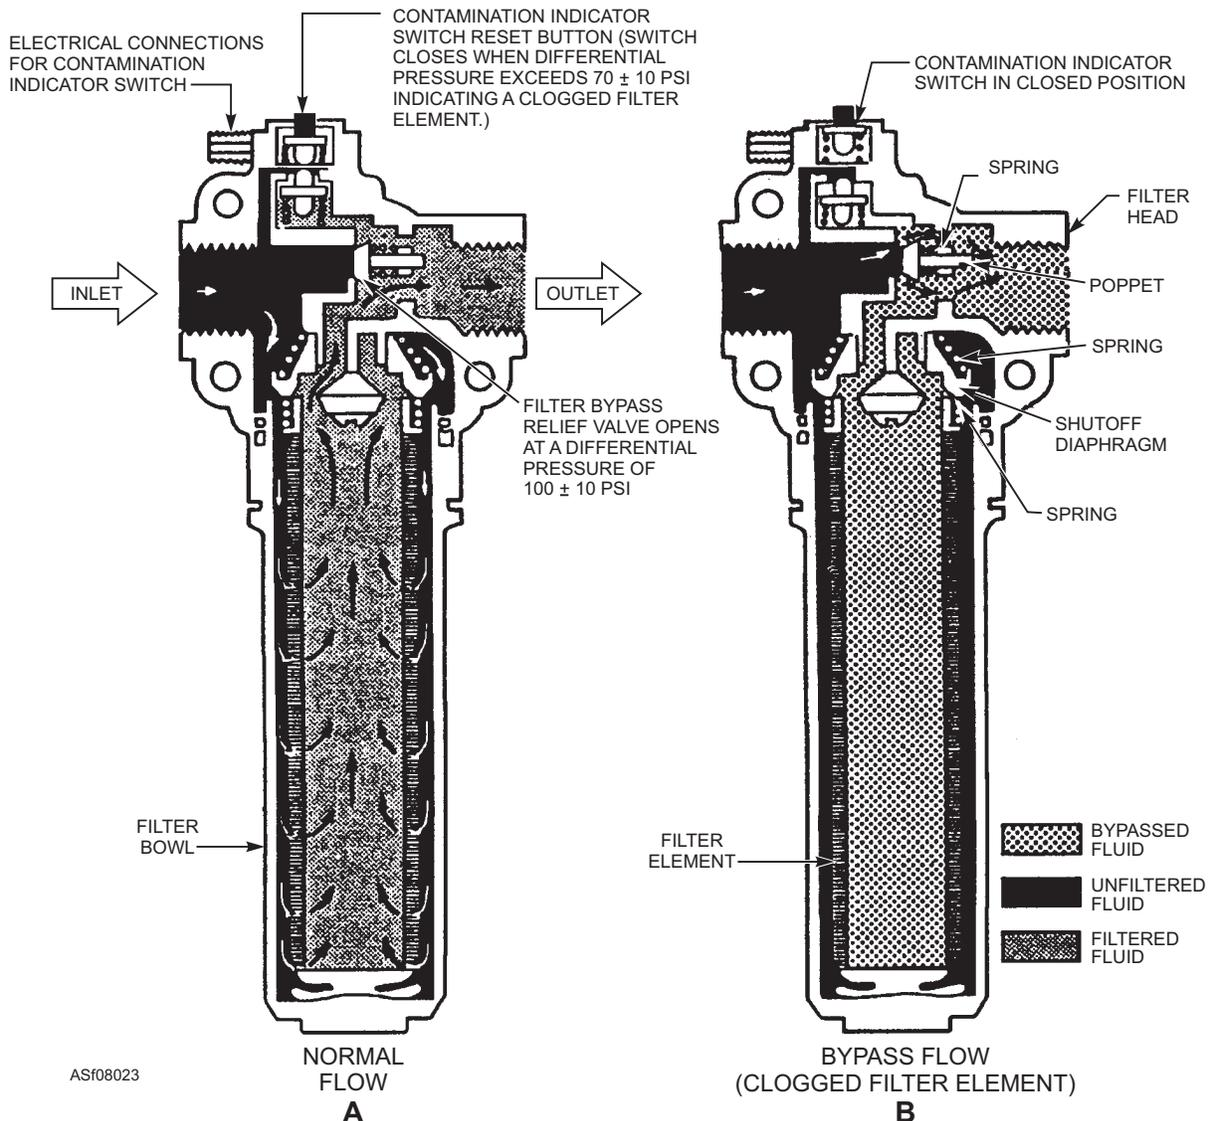

Figure 8-23.—Full flow bypass, electrical indicating hydraulic filter.
Contamination indicators are also used on some bypass filters. The full flow, bypass, electrical-indicating hydraulic filter (shown in figure 8-23) is used in many hydraulic systems of modern support equipment. This filter uses one or a combination of the contamination indicators previously described.
**NOTE:** It is important to remember that cold hydraulic fluid can produce a false pressure indication. To prevent needless changing of filters, fluid should be at operating temperature for a true indication of contamination. Some filters, such as that shown in figure 8-23, have a button to reset the switch after the filter has been serviced. However, on other filters, the switch resets automatically when the differential pressure is relieved.